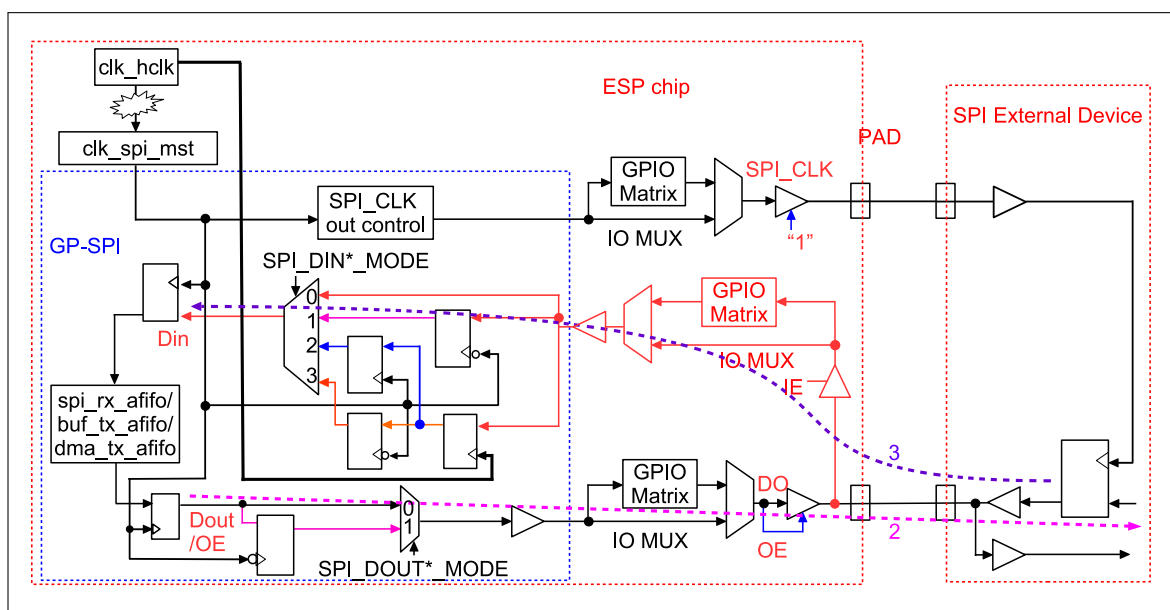

Figure 30-15. Timing Compensation Control Diagram in GP-SPI2 Master Mode
Figure 30-15 shows the timing compensation control for GP-SPI2 master mode, including the following paths:
- “IN”: data input path of GP-SPI2 (see line 3 path in color purple in Figure 30-15). The input data from an external SPI device passes through GPIO matrix or IO MUX, then is adjusted by the Timing Module (see Figure 30-3) and finally is stored into spi_rx_afifo.
- “OUT”: data output path of GP-SPI2 (see line 2 path in color rose-red in Figure 30-15). The output data is sent out to the Timing Module, passes through GPIO matrix or IO MUX and is then captured by an external SPI device.